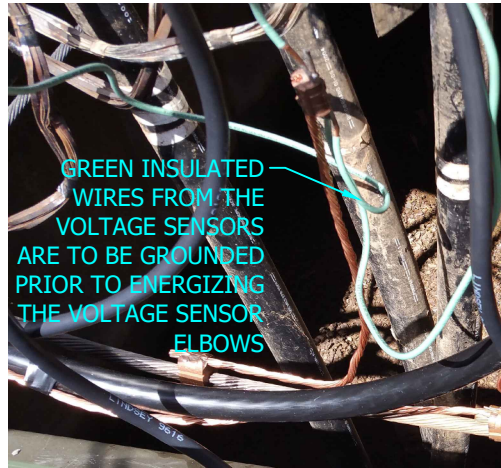

FIGURE 56 (R)
- (R) VOLTAGE SENSOR ARE TO BE CONNECTED TO THE TIE POSITION OF THE SWITCH. IF APPLICABLE USING A FEED THRU DEVICE ON THE P.T. WILL ALLOW FOR THE VOLTAGE SENSOR AND P.T. TO BE CONNECTED TO THE SAME SWITCH POSITION. SEE FIGURE 56.